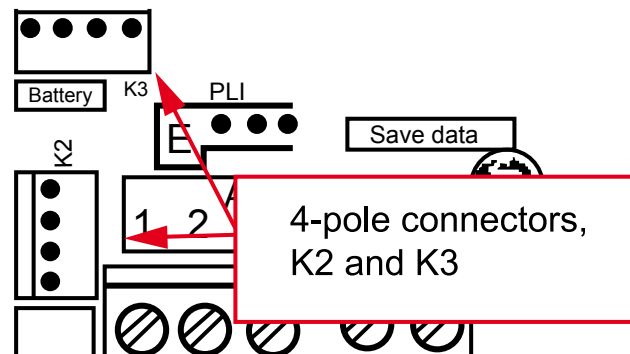

Fig. 1, F4 connection terminals
3. Cut the power by disconnecting the four-pole connectors K2 and K3, cf. Fig.1.